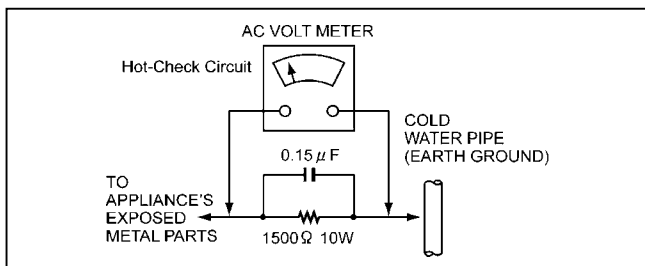

Figure1
LEAKAGE CURRENT HOT CHECK (See Figure 1)
2. Connect a 1.5K Ω , 10W resistor, in parallel with a 0.15 μ F capacitor, between each exposed metallic part on the set and a good earth ground such as a water pipe, as shown in Figure1.